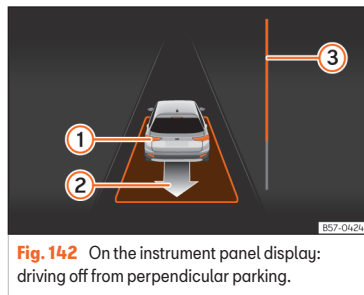

Fig. 142 On the instrument panel display: driving off from perpendicular parking.
- Reverse until the continuous ParkPilot signal sounds; **OR**: reverse until the instrument panel display shows the forward indication. The progress bar >>> Fig. 142 ③ indicates the distance to cover.
- Press the brake pedal until the parking assist system completes the steering wheel turns; **OR**: press the brake pedal until the symbol (S) goes out on the instrument panel screen.